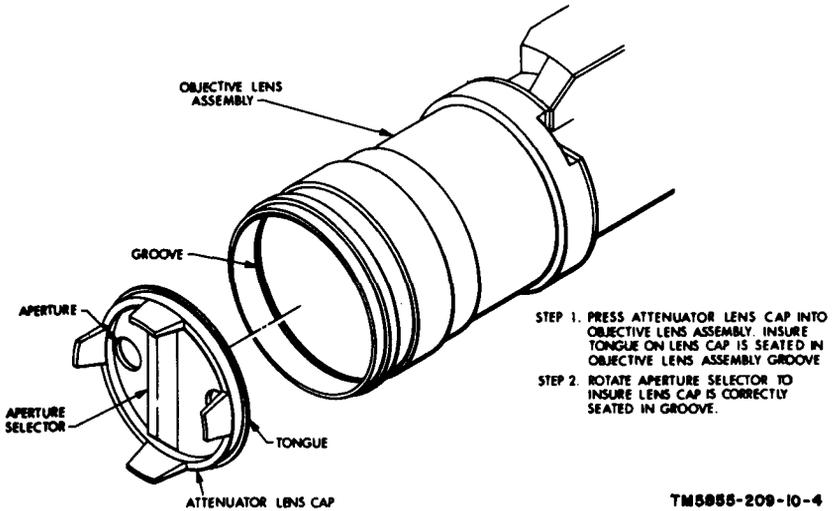

Figure 2-2. Installation of attenuator lens cap.
(Fig. 2-2)
Caution: Always use the attenuator lens cap under daylight conditions (fig. 2-2).
- a. Install the attenuator lens cap (fig. 2-2).